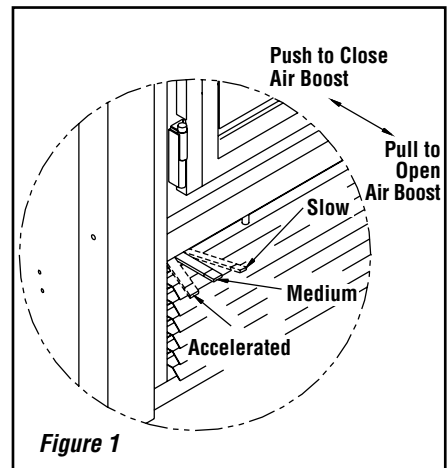

Figure 1
This is the recommended mode of operating the BIS® Ultima-1 fireplace and should be the one normally used since it will deposit the least amount of creosote on the glass and in the chimney. The combustion air control must be 3/4 closed and pushed in to close the air boost (*Figure 1*). The precise setting will depend on many factors, including chimney length and the moisture content of the wood.
Creosote may accumulate on the glass door. This method of burning should be used only after operating the BIS Ultima-1 fireplace with the air control opened (*Figure 1*) to produce a hot fire for about an hour or at medium pace for at least three (3) hours. Slow combustion can be used at night in order to reduce the heat output and to prolong the burn. The loading time will be between 6-8 hours.
The BIS Ultima-1 fireplace will operate best if attention is given to operating the unit with the damper fully opened (*Figure 1*) after refueling in order to bring the firebox and the chimney system up to their optimum operating temperature. Combustion efficiency is relative to firebox temperature. A temperature of 500° C (932° F) and up, with a visible flame, in the upper part of the firebox indicates a maximum efficiency. To obtain this temperature, the fireplace must be operated with the primary air and air boost controls fully opened during 10 to 20 minutes after reloading, depending on the heat and on the moisture content of the wood.